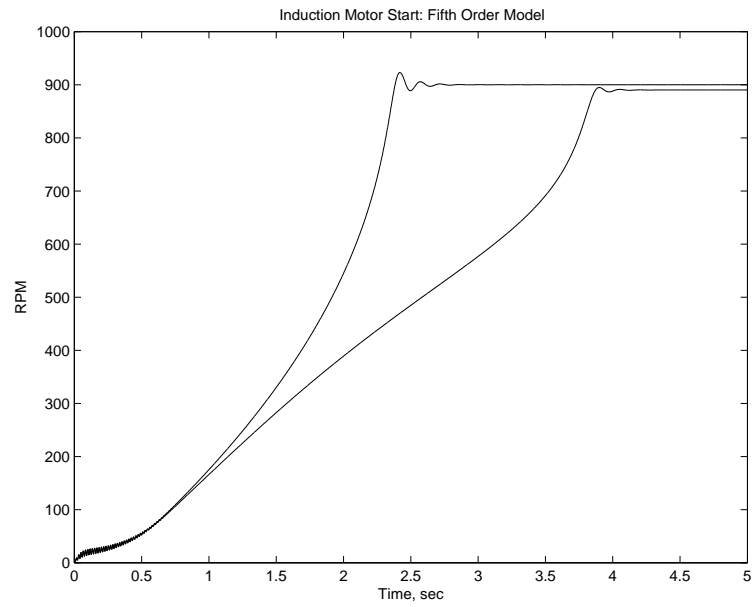

Figure 5: Starting Speed: Fifth Order Model
3. The fifth order model is even easier because we use the simulation model already stated directly. Power is simply voltage times current. The implementation of this in two scripts is appended and the results are shown in Figure 5 and 6.